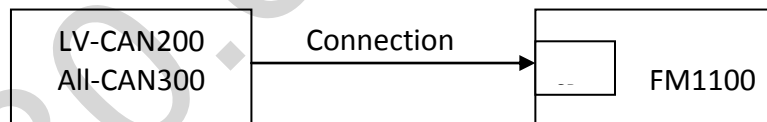
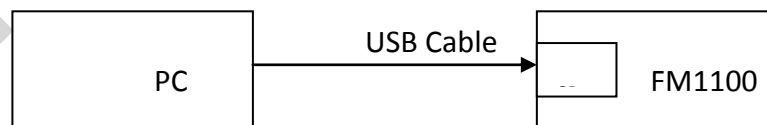

Figure 55 Connect adapter LV-CAN100 to FM1100
Figure 56 Connect FM1100 to PC and configure
SCAN function – is in use when FM1100 is connected to CAN adapter (Figure 55), then wait 10s (Note, that car engine must be started), disconnect adapter from FM1100, and connect PC USB cable to FM1100 Device (Figure 56). It is very important not to disconnect FM1100 from power source during this operation, because if FM1100 is reconnected all received CAN bus data will be lost. FM1100 remembers received data from LV-CAN200 or ALL-CAN300 and at the end of the procedure when “SCAN” button is pressed, user will see all CAN data which is sent by adapter. Enable CAN data which needs send to server and save configuration pressing “Save” button.
1. In car, connect LV-CAN200 or ALL-CAN300 to CAN bus and to the FM1100 device (Figure 55), wait 10 seconds. Note, that car engine must be started.
2. Disconnect LV-CAN200 or ALL-CAN300 from FM1100, and connect PC USB cable to FM1100 Device (Figure 56). It is very important not to disconnect FM1100 from power source, because then all CAN data will be lost.